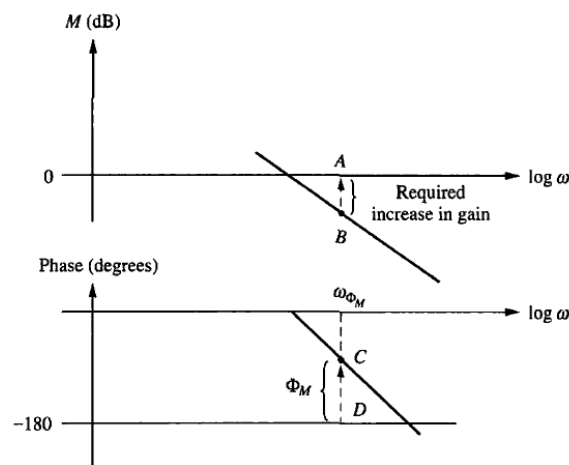

Figure 6: Bode plots showing gain adjustment for a desired phase margin
- Determine the required phase margin from the percent overshoot by using Eqs. (1) and (2).
- By code: Determine the frequency (ω_{Φ_M}) that yields the desired phase margin. Determine the gain at that frequency (AB in figure 6). The magnitude plot must be shifted upward by AB. Find the gain that yields this shift by using $20 \log(K_p) = AB$. Draw the compensated Bode plot and check if the design is right.